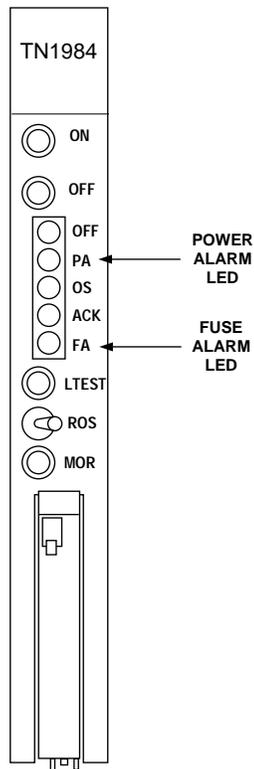

Figure 1. The TN1984 Circuit Pack
1. Does the SCC have a **blown fuse** [FA Light-Emitting Diode (LED) lighted on the TN1984 circuit pack] or a **power alarm** (PA, OFF, and OS LEDs lighted on the TN1984 circuit pack)? (See Figure 1.)